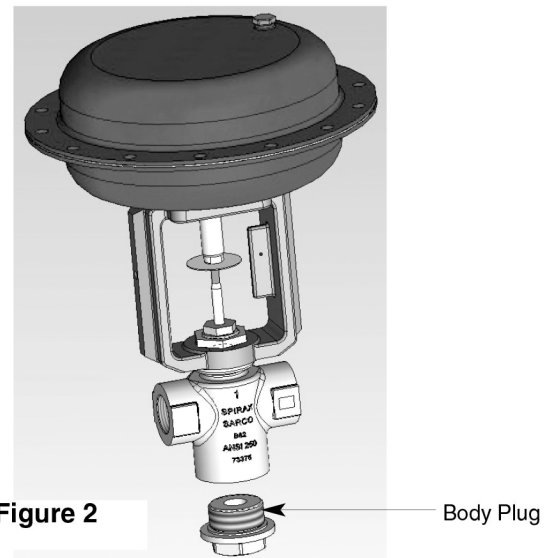

Figure 2
For 2-Way valves, remove the body plug. See Figure 2.
3. For 2-way valves, remove the body plug (Figure 2).